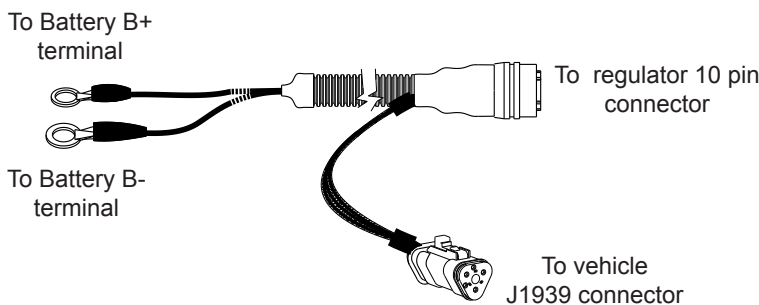

Figure 4: Temperature/Voltage Sense/J1939 Harness (sold separately)
- b. Connect temperature/voltage sense/J1939 harness (sold separately) to 10 pin connector on regulator. See Figures 4 and 5.